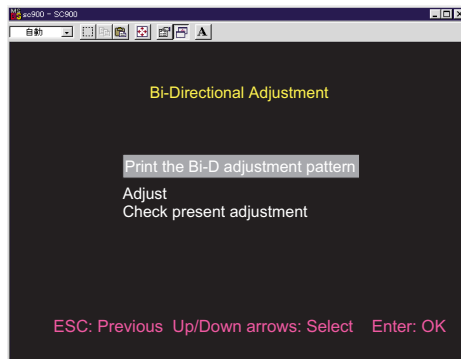

Figure 5-31. Bi-Directional Adjustment Screen
9. While the Bi-D adjustment pattern is running, the screen returns to the Bi-Directional Adjustment screen (Figure 5-31).